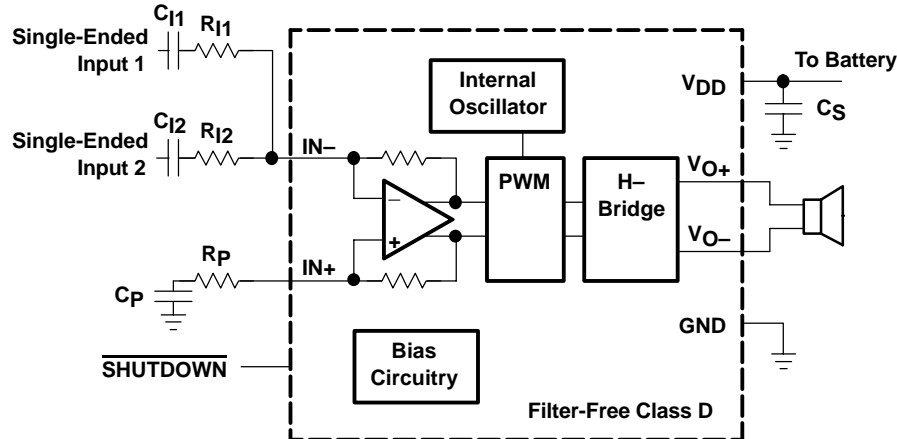

Figure 31. Application Schematic With TPA2005D1 Summing Two Single-Ended Inputs
Four resistors and three capacitors are needed for summing single-ended input signals. The gain and corner frequencies (f_{c1} and f_{c2}) for each input source can be set independently (see equations (9) through (12), and Figure 31). Resistor, R_P , and capacitor, C_P , are needed on the IN+ terminal to match the impedance on the IN– terminal. The single-ended inputs must be driven by low impedance sources even if one of the inputs is not outputting an ac signal.